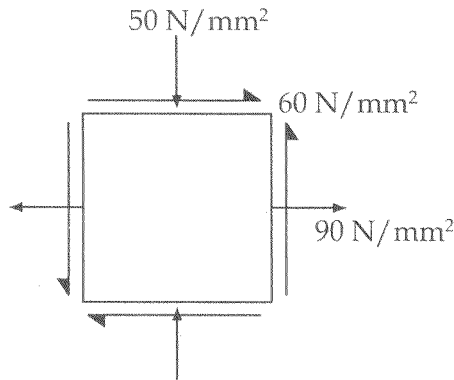

Figure 1
11. Consider the state of stress at a point of a bi-axially loaded member as shown in the Figure 1. Determine the principal stresses and calculate the factor of safety using. 10